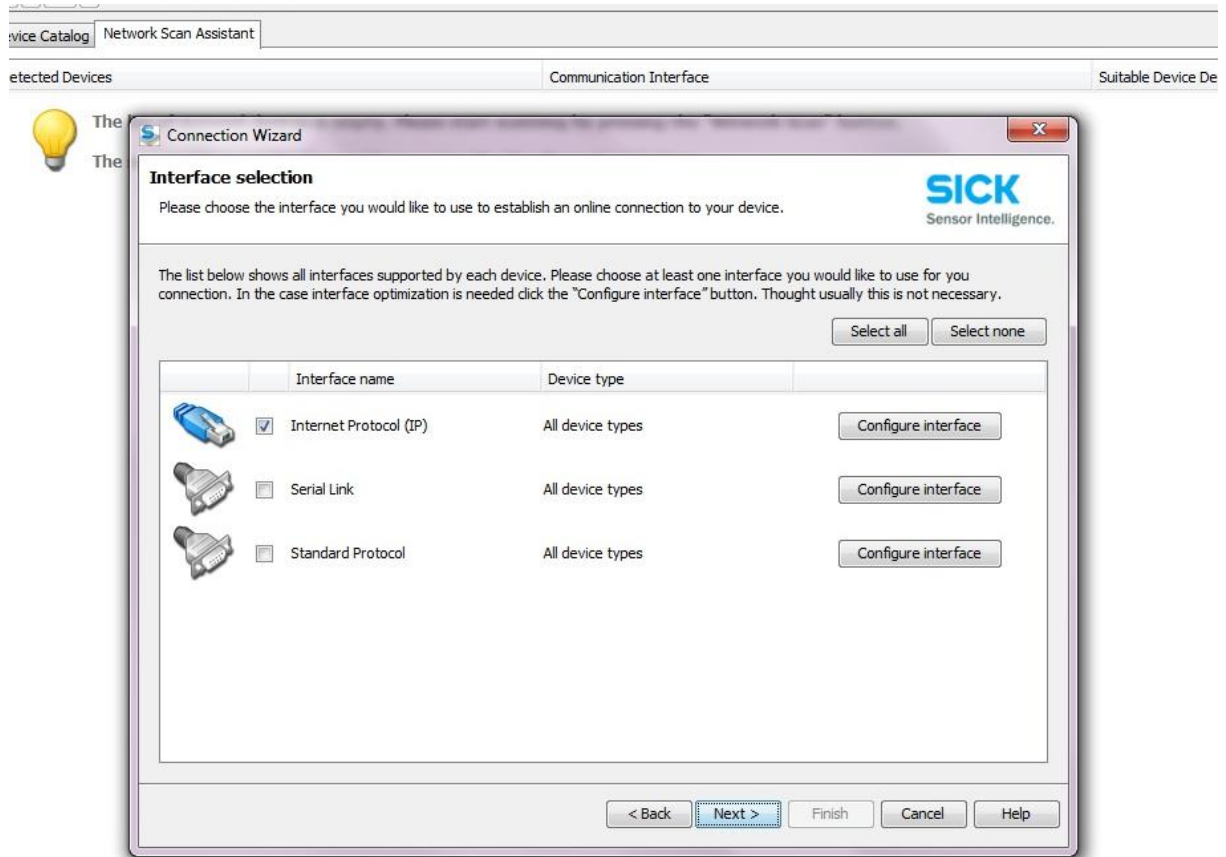

Fig. 5
4. Interface selection, in this case “Internet Protocol” must be selected. (Using an Ethernet wire).Fig.5